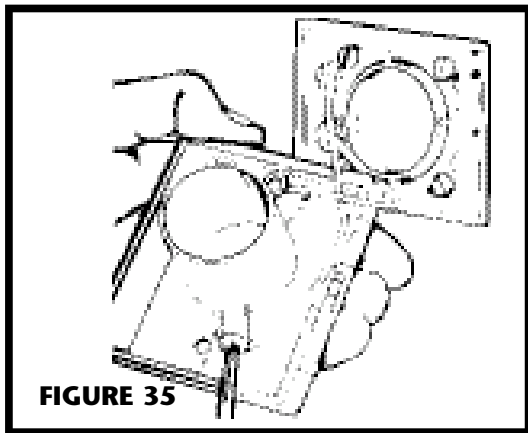

FIGURE 35
5. Attach the low voltage wires to terminal screws on back of wall inlet (Figure 35). If using 361 Rough-in with CI370 Series Inlets, refer to instructions on page 6, step 3, shown in Figure 18.